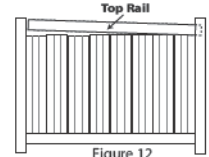

Figure 12
2. To insert the top rail, place one end of the top rail into the post and work your way down the panel pushing the pickets into the top rail as you go. (Figure 12)